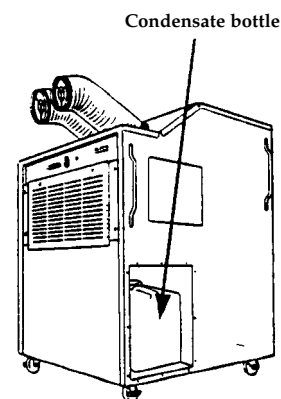

Figure 2 Unit with condensate compartment cover removed
1. Remove bottle from compartment, tacking care not to damage the sensor wires connected to the top of the bottle (see figure 2 & 3).